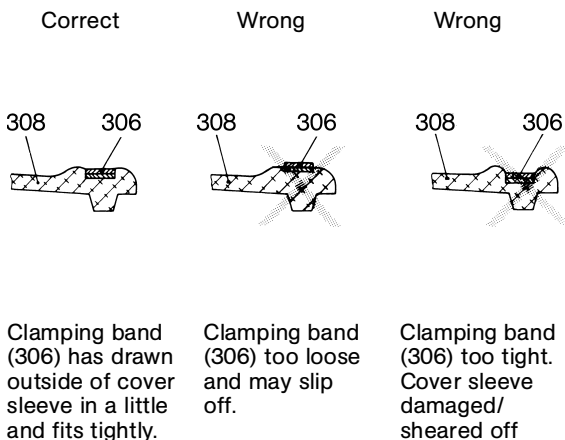

Figure 11: Clamping the clamping bands.
Note: The correct method of clamping the clamping bands (306) is shown in Figure 11.